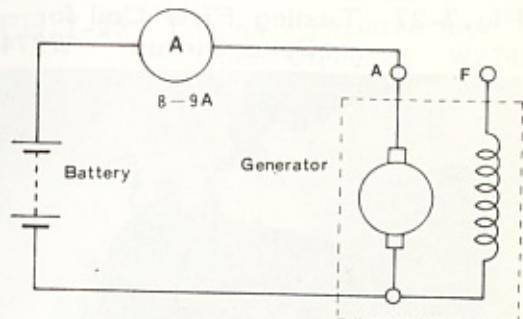

Fig. 7-33 Wiring for Motoring Test X0968
4. If the current flow is from 4 to 5 amperes, and the generator rotates smoothly, the generator is satisfactory. Next, disconnect the wire between "A", and "F" the current flow should be 8 to 9 amperes as shown in figure 7-33.